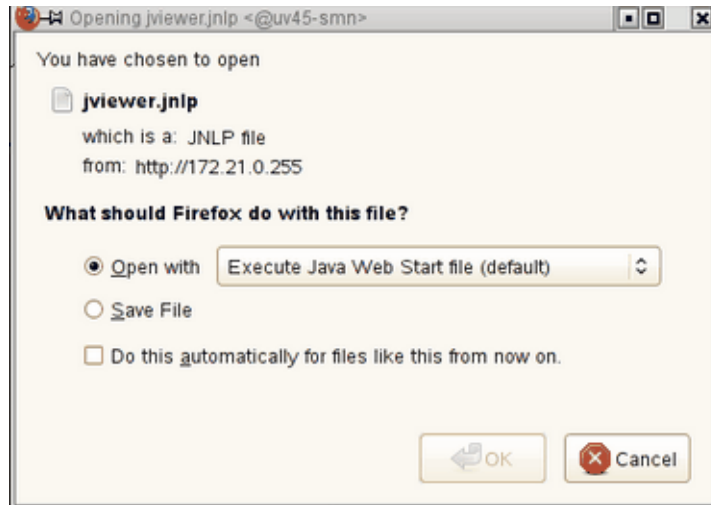

Figure 3-5 Select Execute Java Web Start file (default) Pop-up Menu
8. A Java application under Firefox will open. **Select Execute Java Web Start file (default)** from the pop-up menu, as shown in Figure 3-5 on page 42. You may need to enable pop-ups for this address for the Firefox browser first.